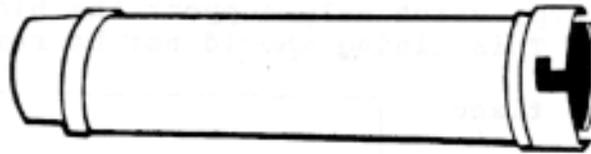

Figure 1-13. Metal container for separate loading propellant
(2) **Separate-loading ammunition.** Separate-loading ammunition presents a different packing and safety problem from that encountered with semi-fixed ammunition. Separate-loading projectiles do not require any outer packing. They are shipped unfuzed with an eyebolt plug screwed into the fuze well and a protective grommet around the rotating band. Separate-loading projectiles are usually shipped pelletized to permit use of forklifts and other types of heavy material-handling equipment. This reduces handling time and labor in shipping and storage. Separate-loading ammunition propellants are packed in airtight metal storage containers for ease in handling and protection from the elements. An igniter cap of cloth or paper protects the igniter end of the propelling charge. Each packing container is marked so all essential information concerning the contents is available without breaking the container seal (Figure 1-13). Primers normally are packed 48 to a sealed metal can. The metal can is overpacked in a wooden box. All essential information to identify the contents is stenciled on the exterior of the container. Fuzes come packed in hermetically sealed metal containers overpacked in a wooden box. Complete identification of the contents of each container are painted on the box and metal container as well as on the individual container.